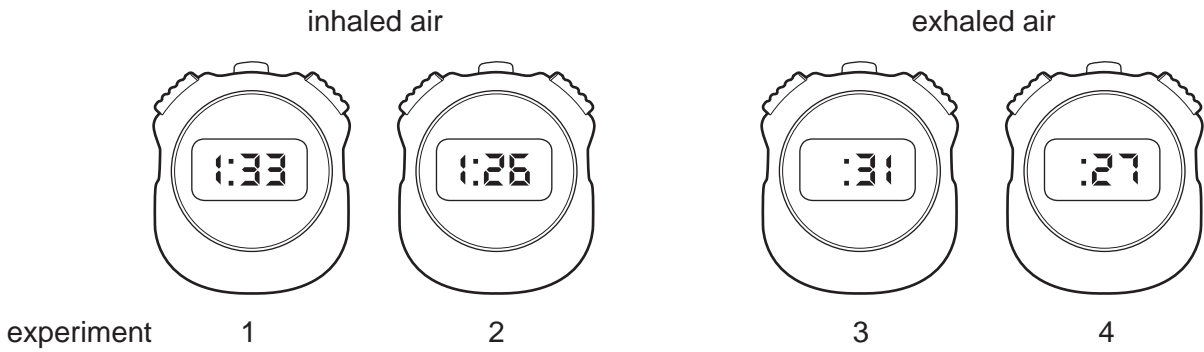

Fig. 1.3
Fig. 1.3 shows the times for the flames to go out.
- (i) Use Fig. 1.3 to record in Table 1.1, the times taken in seconds for the flame to go out in each experiment.